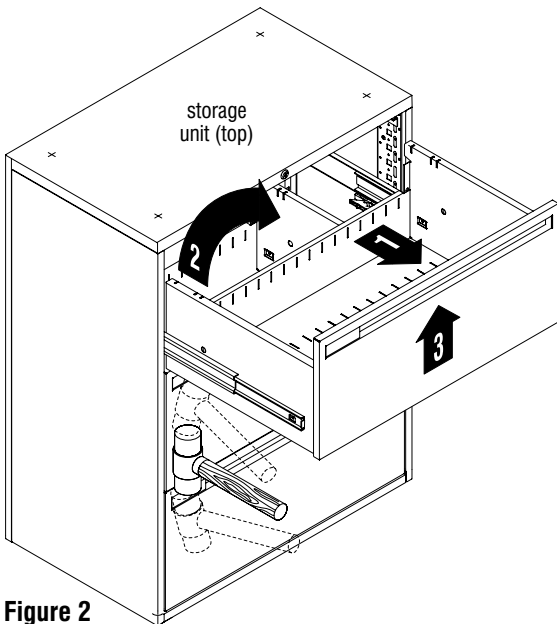

Figure 2
4. To gain access for drilling and to install fasteners, remove the top two drawers from the storage units where applicable (Figure 2).